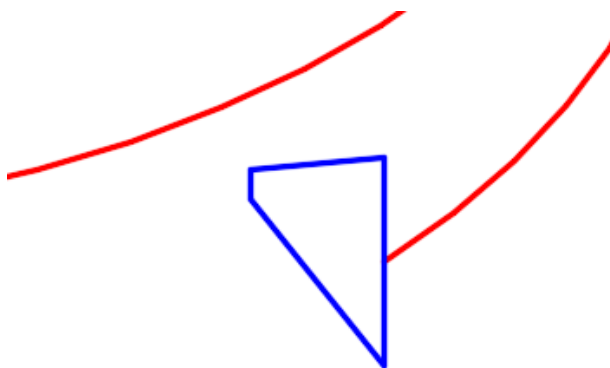

Figure Step 9A
Step 9 Turn layer: Construction off. (Figure Step 9A and 9B)